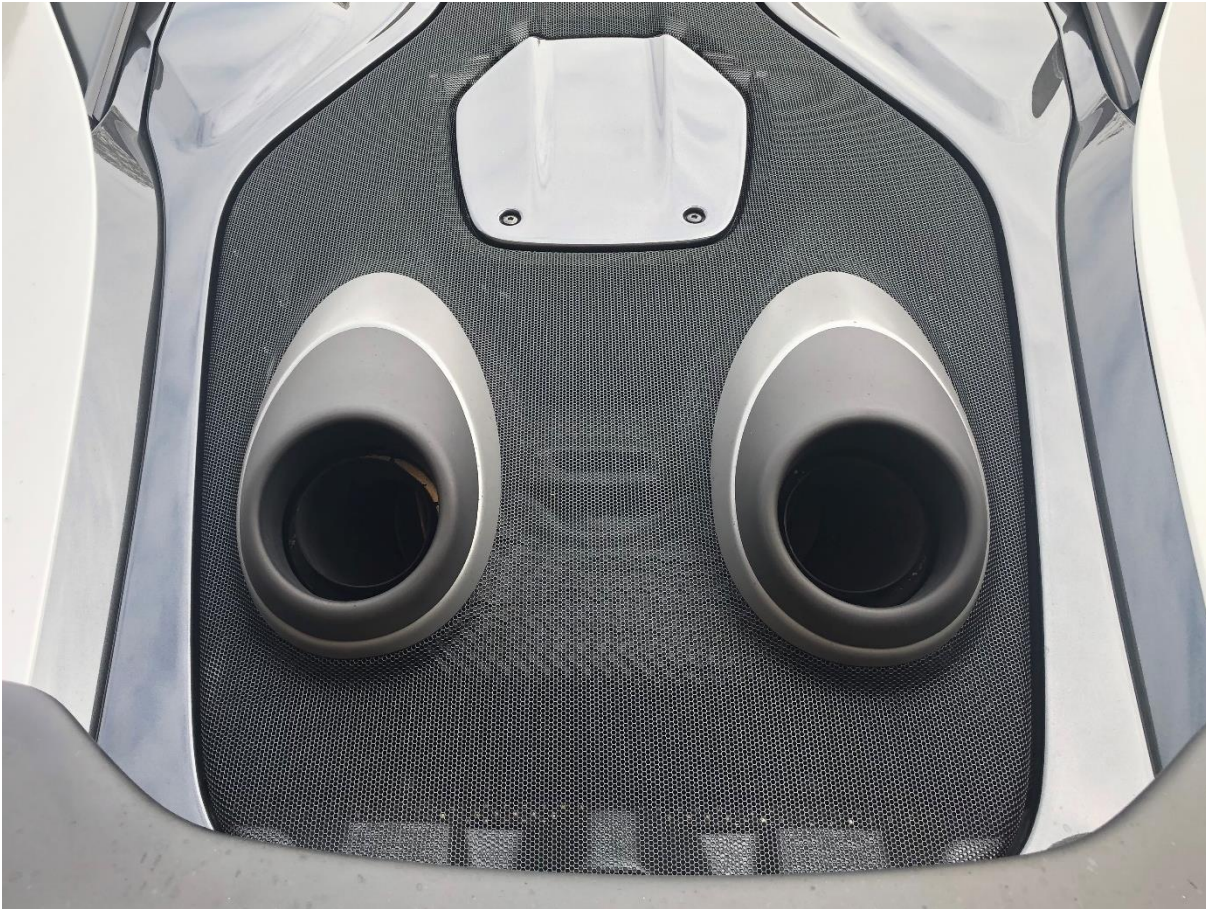

Fig. 15
10. Restore the engine cover and trim cover to position (Fig 15)